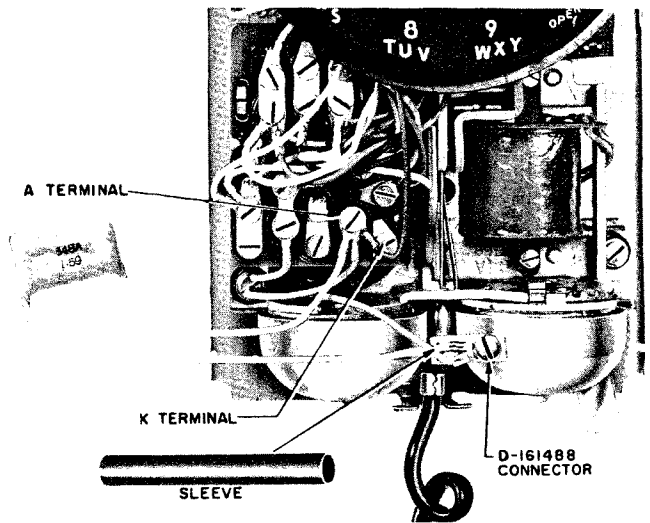

Fig. 11 - Connection for Shorted Capacitor
9.06 Remove ringer leads from terminal K of 425-type network and bridge to other side of 548A capacitor, using D-161488 connector (see Fig. 11).